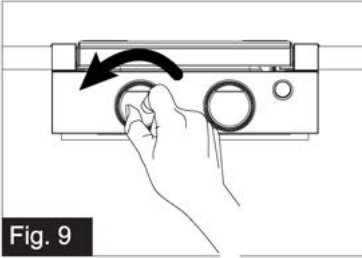

Fig. 9
3. Turn the appropriate burner knob counterclockwise to LIGHT position. (Fig. 9)
3. Rotate the appropriate burner knob counterclockwise to **LIGHT** position. (Fig. 9)